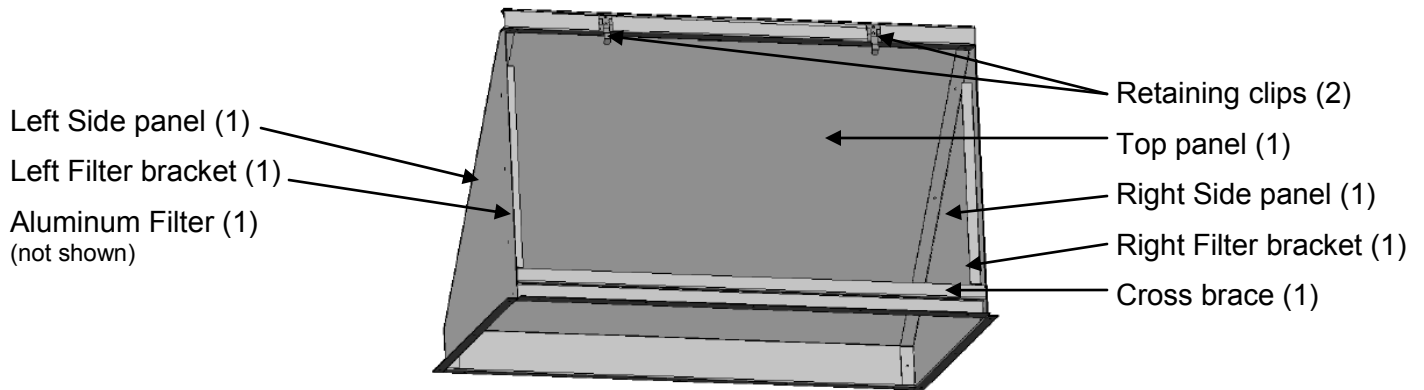

Figure 1d – Exhaust Hood Assembly
3. Assemble the exhaust hood. See Figure 1d. Using screws provided in the hardware bag, screw the filter brackets to the side panels. Screw the side panels to the top panel. Screw the cross brace to the side panels. Screw the filter retaining clips to the top panel.